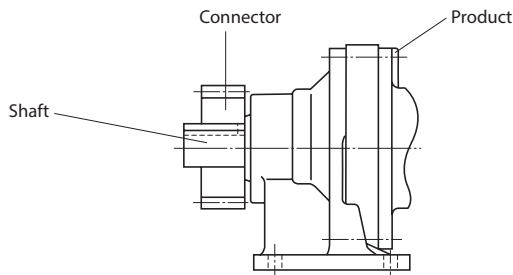
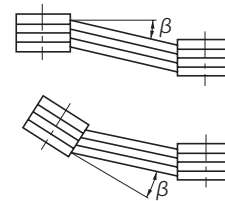

Figure 5-2
Figure 5-3
(2) When using chains, sprockets, or gears
- The working load point of the sprocket or gear should go from the center of the shaft to this product. (See figure 5-2)
(3) When using a V belt
- The parallelism, eccentricity β of the two pulleys should be within $20'$. (See figure 5-3)